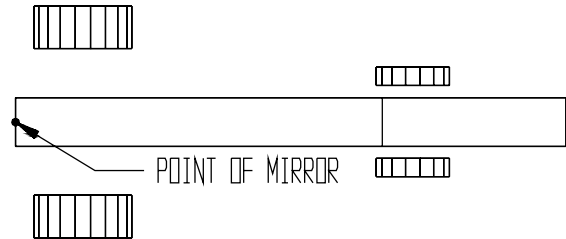

FIG. 9
Step 9. In the Top View, to indicate position on the plane, click the rear vertical line of the chassis rectangle, **Fig. 9**.